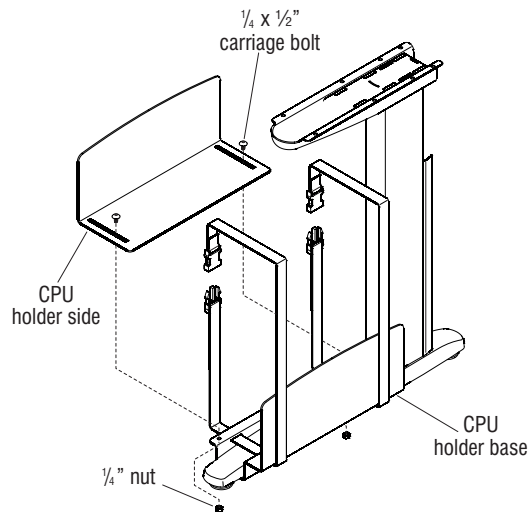

Figure 3
3. If not installed already, attach leg to worksurface and carefully turn desk assembly to the upright position. Insert $\frac{1}{4}$ x $\frac{1}{2}$ " carriage bolt into large slot in CPU holder side and align bolt with hole in CPU holder base. Thread $\frac{1}{4}$ " nut onto carriage bolt, leaving slightly loose until adjustment for CPU size is completed. Repeat assembly for second carriage bolt and nut (Figure 3).